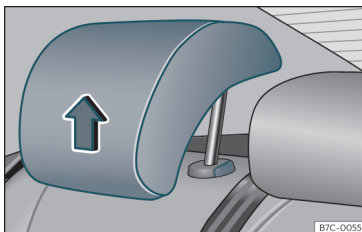

Fig. 73 Head restraints in the correct position.
- One position for **use** (head restraint raised) >>> Fig. 73. In this position, the head restraints are used normally, protecting passengers along with the rear seat belts.